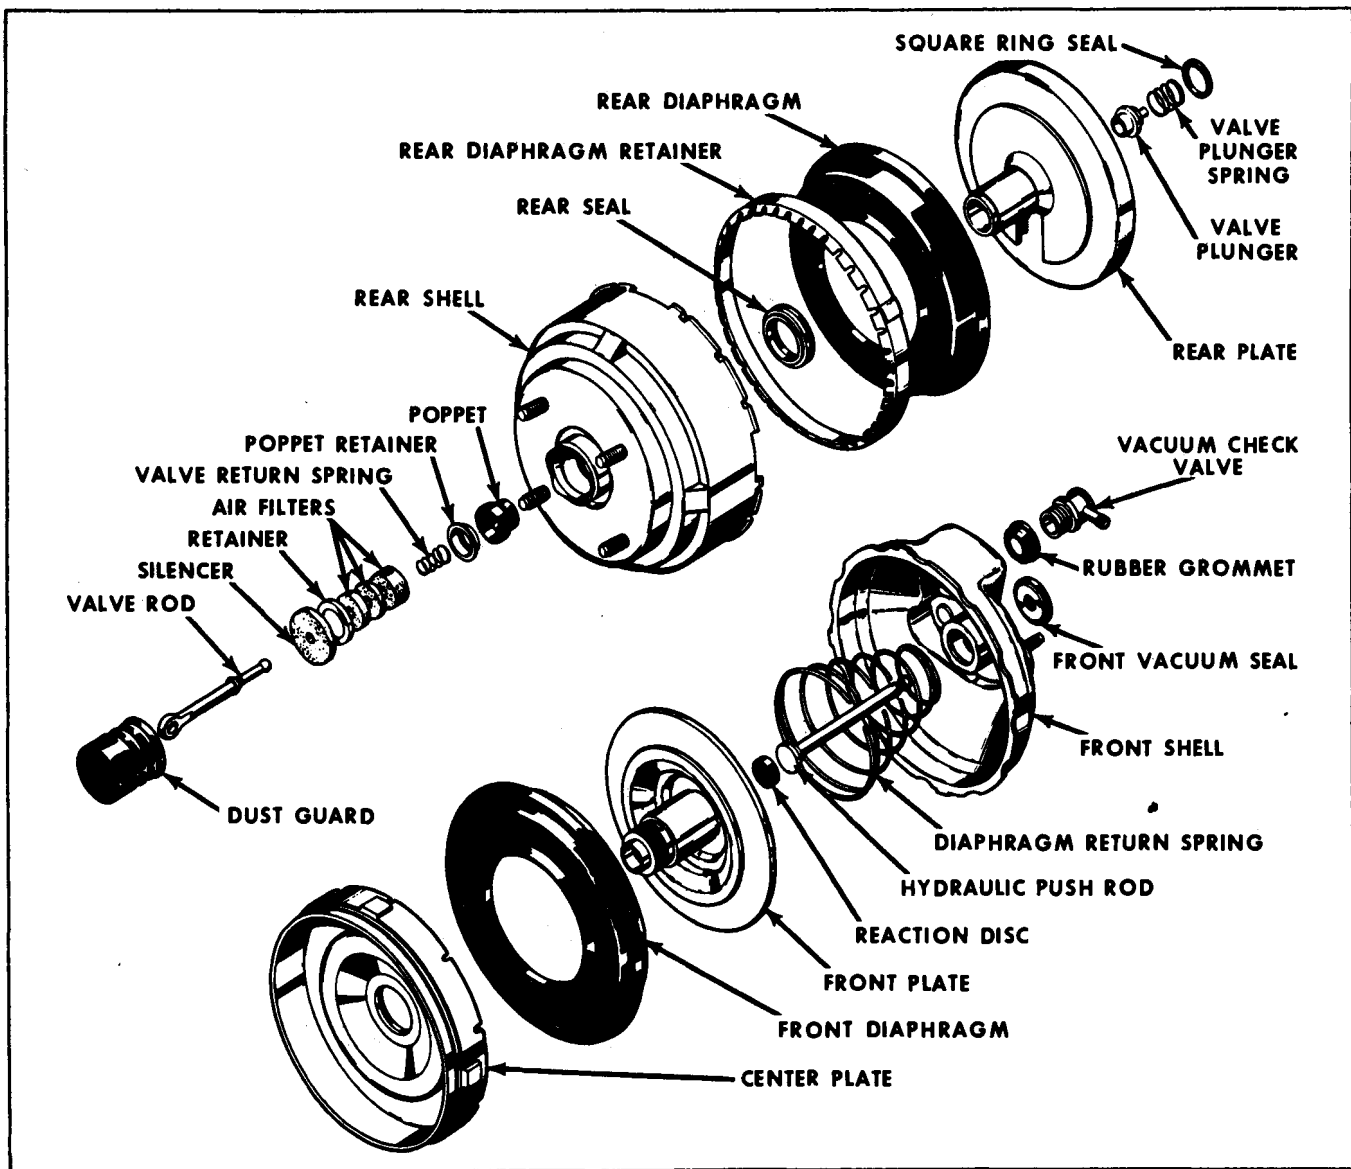

Fig. 5C-1 Power Unit - Exploded View
PARTS - REMOVE (Fig. 5C-2)
3. Reinstall hub protector. Position two small blocks of wood on either side of eye and clamp this assembly securely in vise (see Fig. 5C-2 inset). Leave just enough space between steel retainer on plastic valve hub and side of vise jaw to insert two medium-sized open end wrenches. Use wrench nearest vise as a pry to force the valve plunger grommet (and power section) off the ball end of the valve rod.